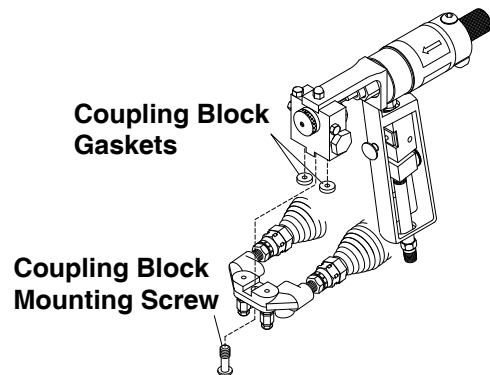

FIG. 3 Coupling Block
3. Remove coupling block mounting screw (FIG. 3).